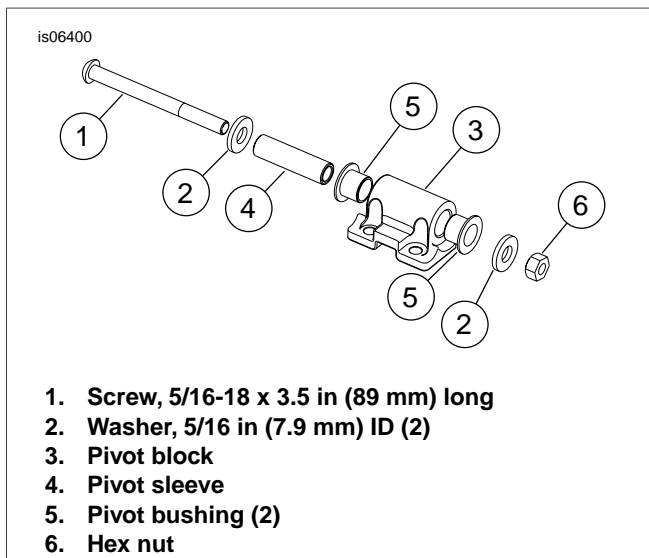

Figure 4. Pivot Block Assembly
1. See Figure 4. Press two pivot bushings (5) into the pivot block (3) using one of the following methods: